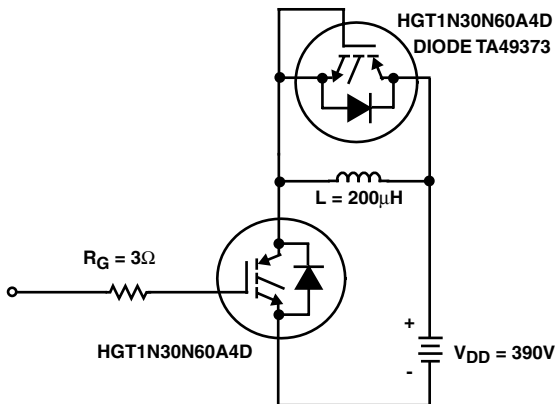

FIGURE 24. INDUCTIVE SWITCHING TEST CIRCUIT
| Current Turn-On Delay Time | $t_{d(ON)I}$ | IGBT and Diode at $T_J = 25^\circ\text{C}$, $I_{CE} = 30\text{A}$, $V_{CE} = 390\text{V}$, $V_{GE} = 15\text{V}$, $R_G = 3\Omega$, $L = 200\mu\text{H}$, Test Circuit (Figure 24) | - | 25 | - | ns |
| Current Turn-On Delay Time | $t_{d(ON)I}$ | IGBT and Diode at $T_J = 125^\circ\text{C}$, $I_{CE} = 30\text{A}$, $V_{CE} = 390\text{V}$, $V_{GE} = 15\text{V}$, $R_G = 3\Omega$, $L = 200\mu\text{H}$, Test Circuit (Figure 24) | - | 24 | - | ns |
- Values for two Turn-On loss conditions are shown for the convenience of the circuit designer. E_{ON1} is the turn-on loss of the IGBT only. E_{ON2} is the turn-on loss when a typical diode is used in the test circuit and the diode is at the same T_J as the IGBT. The diode type is specified in Figure 24.